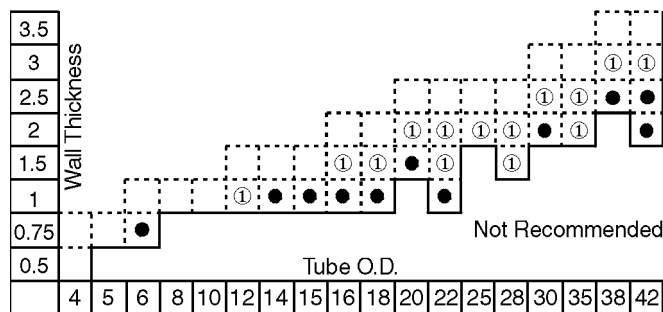

Fig. S45 — Recommended Tube Wall Thicknesses, Steel, SS
Steel tubes made of 37.4 or soft metal tubes can be checked in accordance with Figs. S45 and S46, respectively, to see if they require support sleeves; for plastic tubes, (support) sleeves are always necessary (see Page E15 for E type sleeves).
*Refer to Fig. S45 and S46 for required support sleeves.